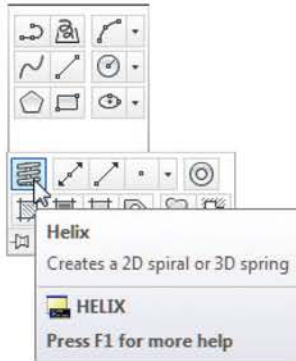

Fig. 11.29 The Helix tool in the Home/Draw panel
1. Click the **Helix** tool icon in the **Home/Draw** panel (Fig. 11.29). Enter the following prompts at the keyboard: